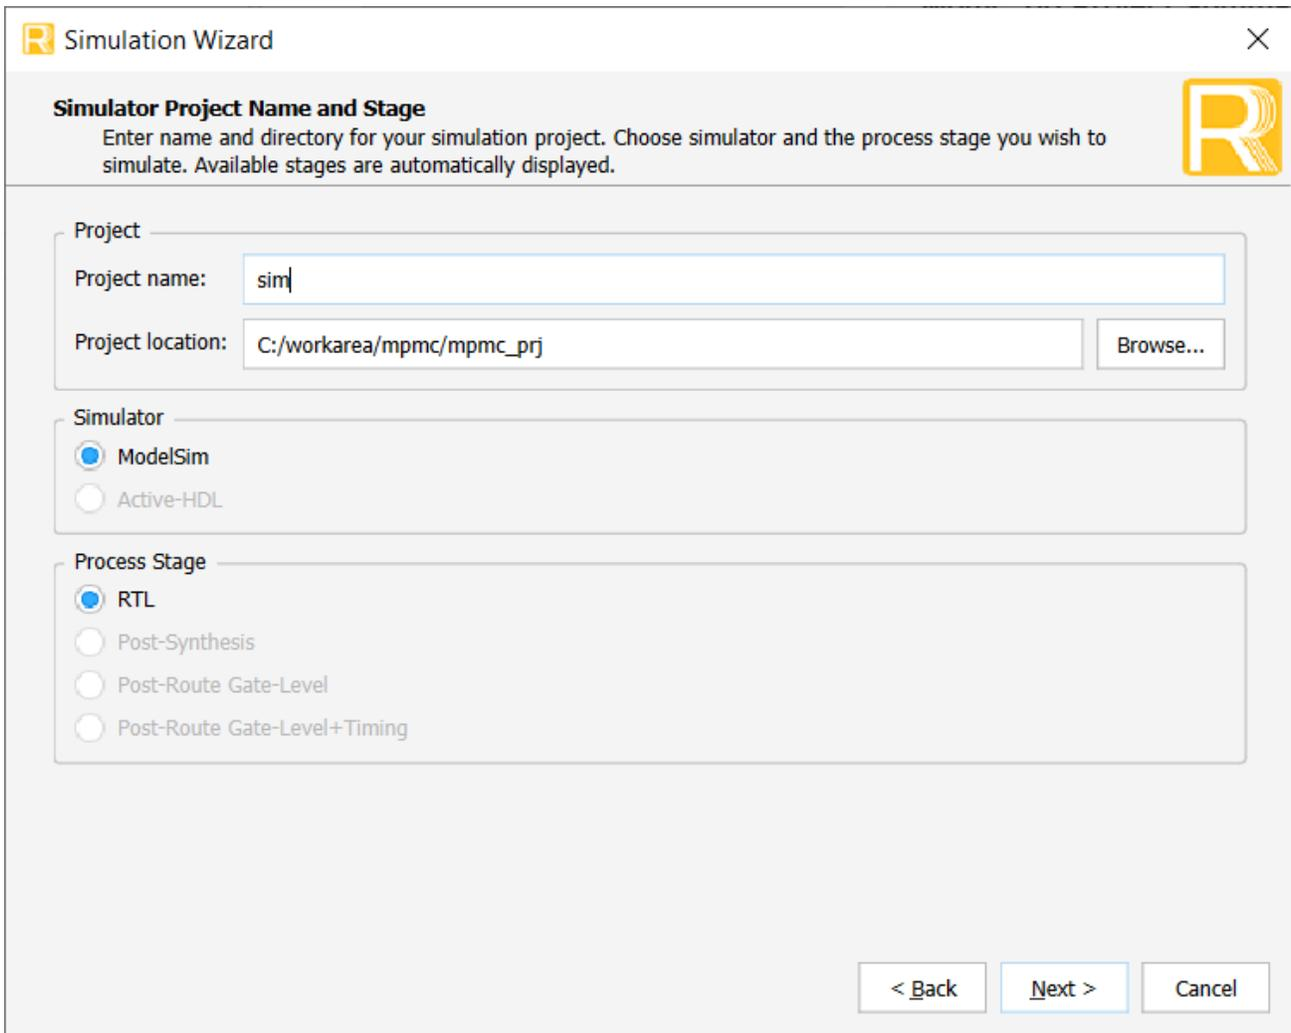

Figure 6.11. Simulation Wizard
1. Launch the simulation wizard in the Lattice Radiant software by selecting **Tools > Simulation Wizard**. The **Simulation Wizard** dialog box opens. Click **Next** and provide a **Project name** (<sim_name>) and **Project location** (<sim_directory>) for the simulation project, as shown in Figure 6.11. The default directory is set to <project_directory>/<project_name>. Click **Next**.